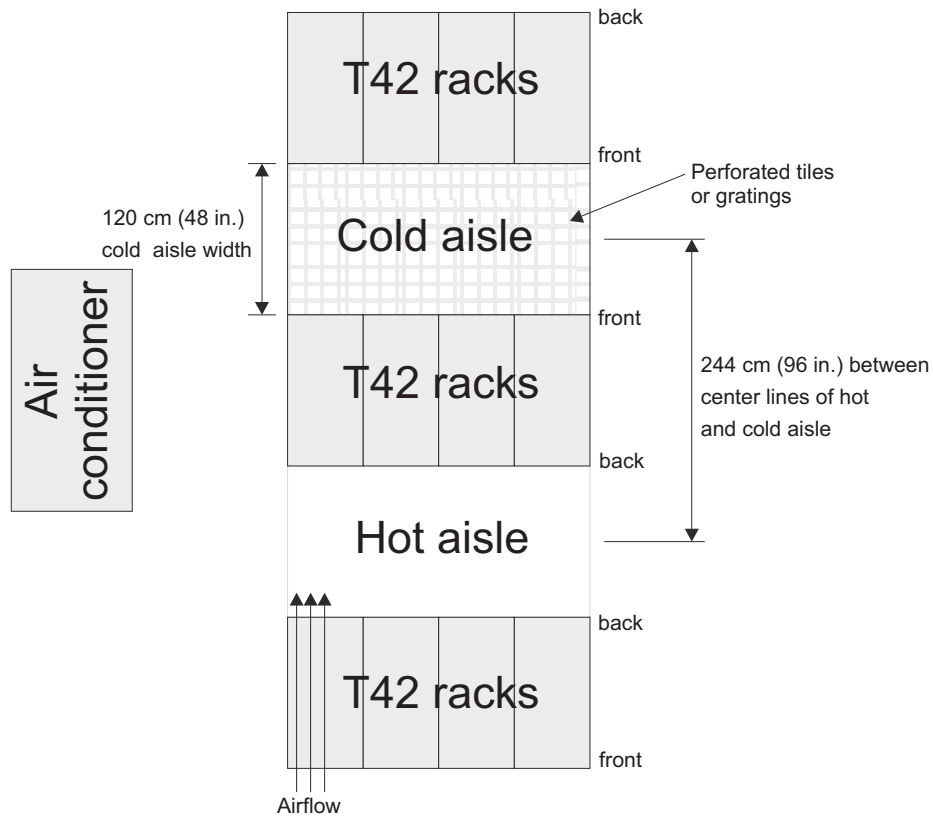

Figure 1-15. Example of cold aisle/hot aisle rack configuration
- Air enters at the front of the rack and leaves at the back. To prevent the air that is leaving the rack from entering the intake of another piece of equipment, you must position the racks in alternate rows, back-to-back and front-to-front. This arrangement is known as “cold aisle/hot aisle” and is shown in Figure 1-15 on page 1-21.
- Where racks are in rows front-to-front or back-to-back, gaps of at least 122 cm (48 in.) must separate the rows across the cold aisle (see Figure 1-15 on page 1-21).